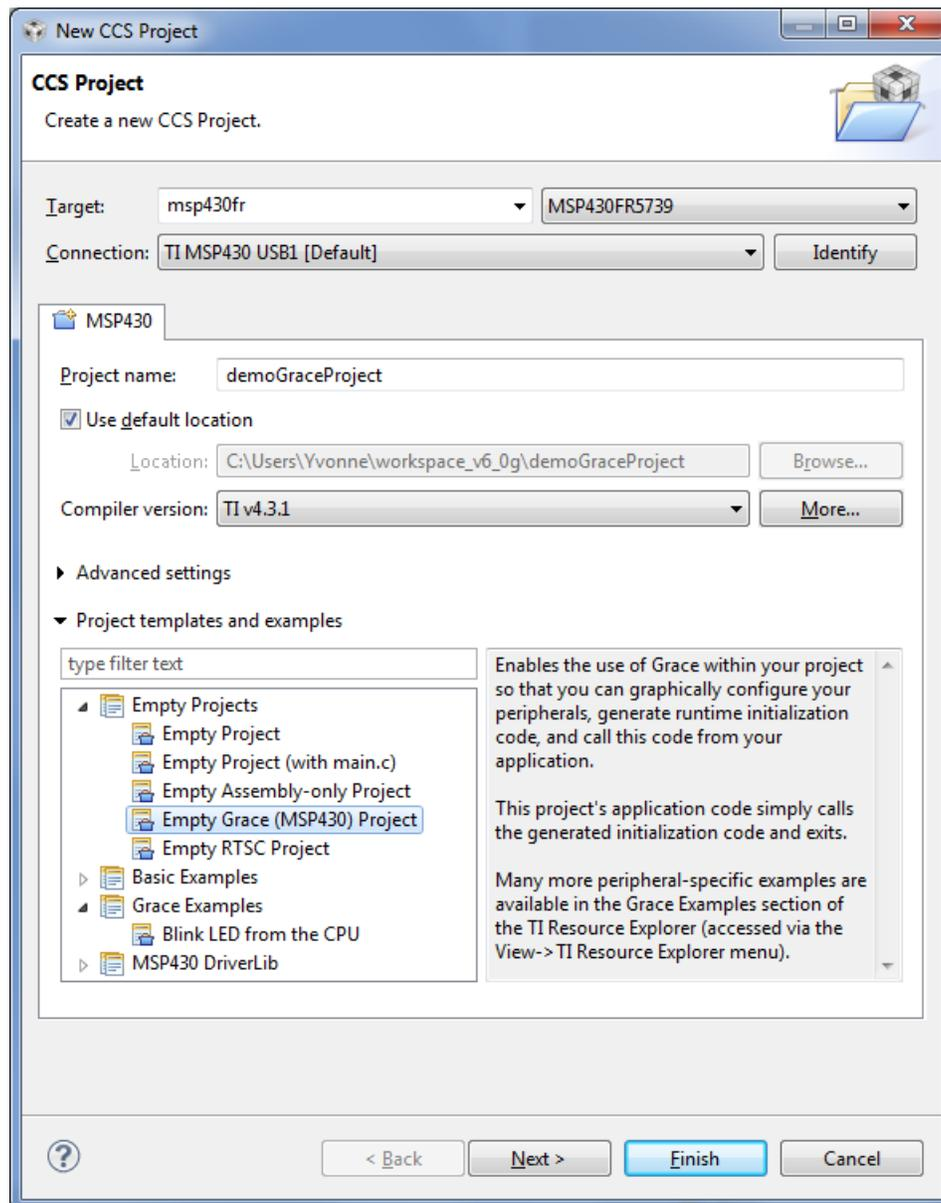

Figure 4. New CCS Project Setup
2. In the New CCS Project wizard (see Figure 4), type part of your device name in the **Target** field, and select your MSP430 target device from the drop-down list.